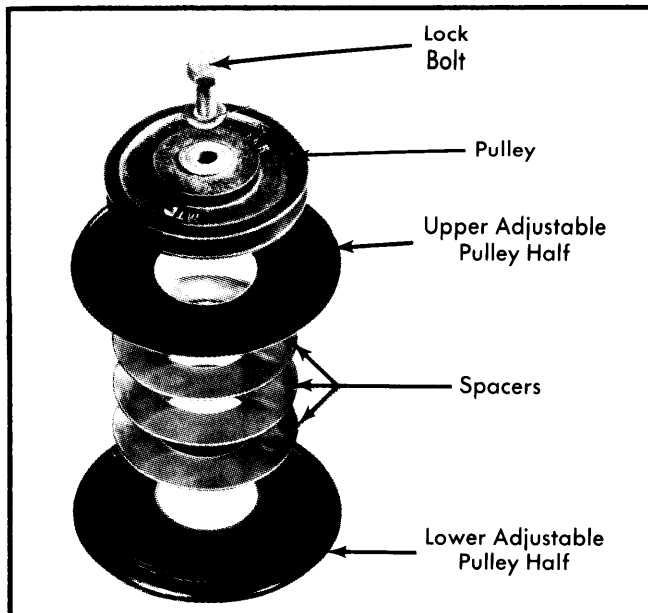

Fig. 2 Adjusting Belt Tension
**Installation & Adjustment** – To install, reverse removal procedure, then perform adjustment as follows: Bolt steering assembly to outer steering tube. Attach gear to crossmember, but do not tighten bolts. Loosen upper control arm mounting bolts on both sides and install special steering gauge 41-102 so that gauge rests firmly on upper control arm. Turn rack until it rests on ruler of gauge. Adjust other side in same manner and tighten mounting bolts to 18 ft. lbs. (2.5 mkg). See Fig. 2.